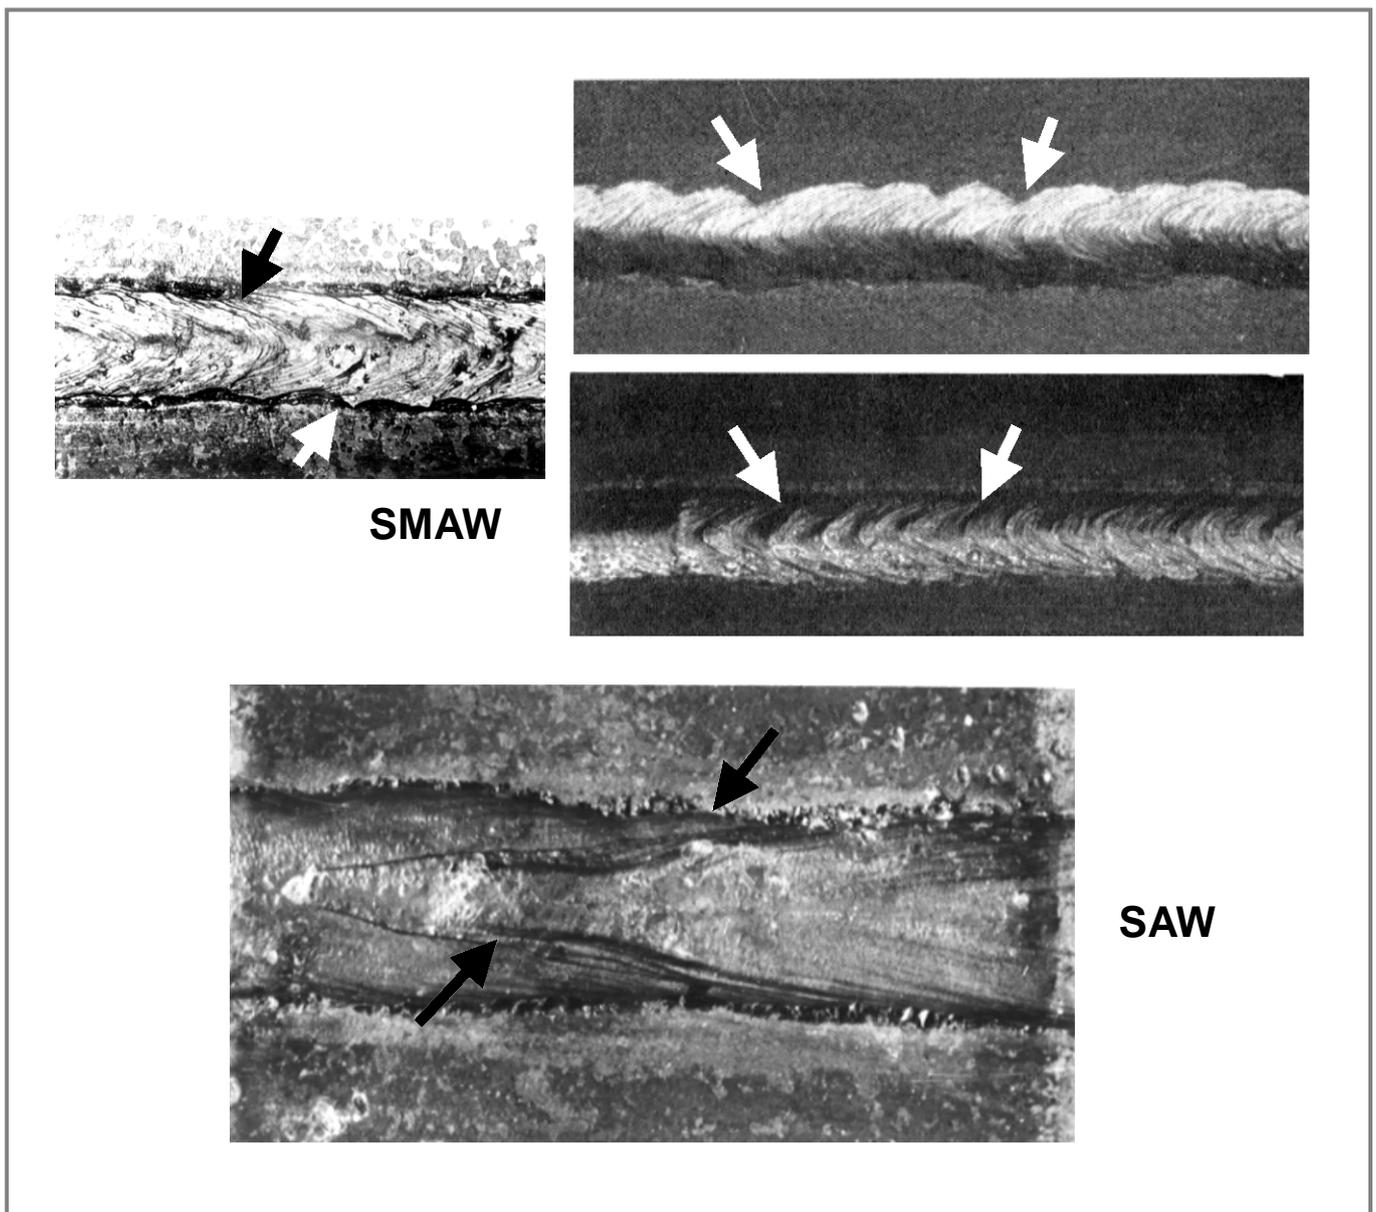

Fig. 1 UNEVEN WELD BEAD RIPPLES
- Fig. 1 — Uneven weld bead ripples